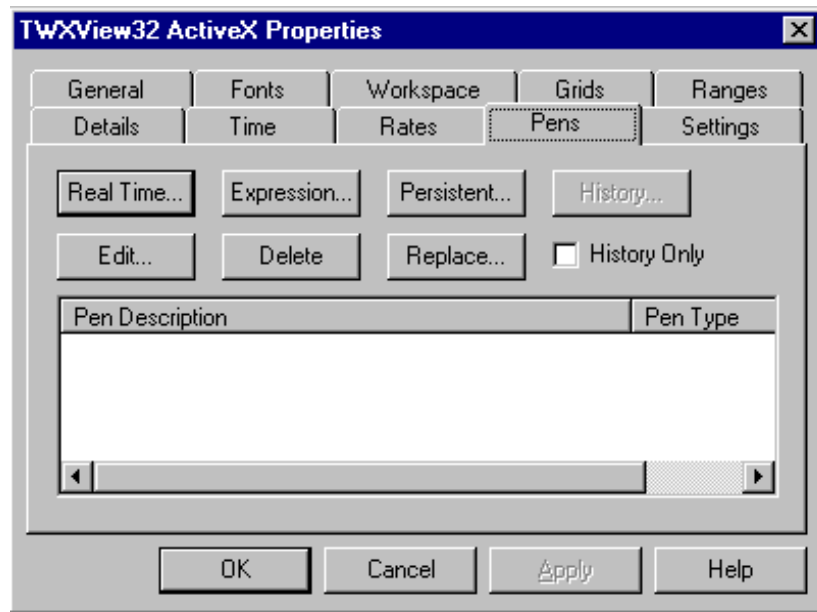

Figure 14-14: TWXView32 ActiveX Properties Dialog Box: Pens Tab
2. Select the Pens tab (Figure 14-14).